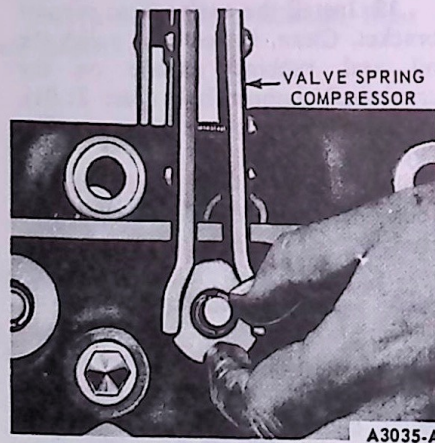

FIG. 36 Compressing Valve Spring
2. Compress the valve springs (Fig. 36), then remove the spring retainer lock, and release the spring.
5. Compress the spring and install the retainer lock (Fig. 36).